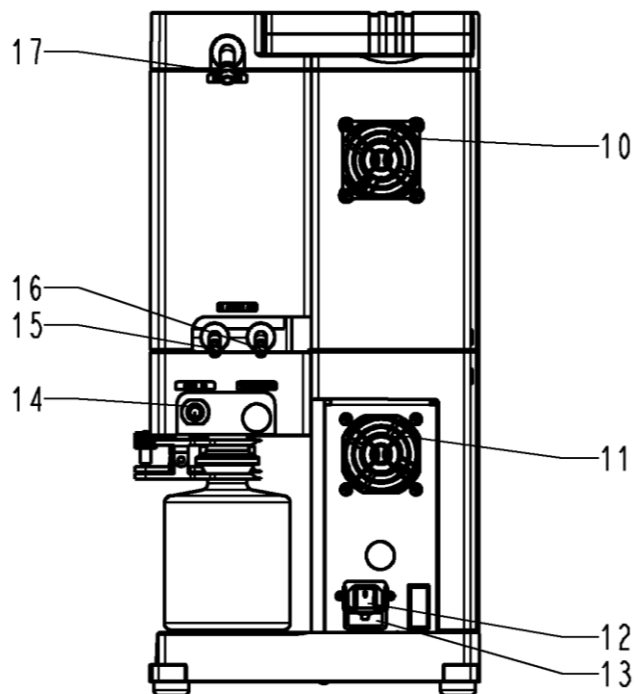
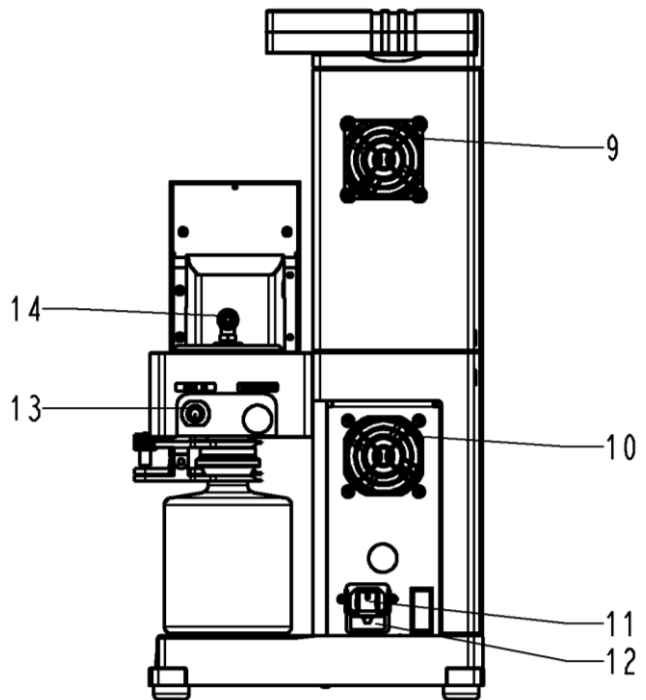

Fig. 5: Vacuum pump system SH 950
Fig. 6: Vacuum pump system SR 950
Collection flask (Fig. 5/7) collects on the suction side of the pump particles and drops that were, contrary to the requirements of the pump, suctioned from the vacuum chamber. The collection flask is coated (implosion protection) and fastened to the vacuum pump system via a flask clip (5).
Collection flask (Fig. 6/6) collects on the suction side of the pump particles and drops that were, contrary to the requirements of the pump, suctioned from the vacuum chamber. The collection flask is coated (implosion protection) and fastened to the vacuum pump system via a flask clip (4).
The gas ballast valve can be opened and closed via the gas ballast switch (Fig. 2/6, p. 13 or Fig. 4/4, p. 17, Fig. 5/4, p. 19 and Fig. 6/3, p. 21):
| Installing the collection flask | Install the collection flasks (Fig. 2/8 and 9, p. 13 or Fig. 4/6 and 7, p. 17, Fig. 5/6 and 7, p. 19 and Fig. 6/5 and 6, p. 21) with the flask clips (Fig. 2/7, p. 13 or Fig. 4/5, p. 17, Fig. 5/5, p. 19 and Fig. 6/4, p. 21). The flasks and clips are included as loose parts. |
1. Connect the vacuum chamber to the gas inlet's hose connector (Fig. 2/19, p. 13 or Fig. 4/16, p. 17, Fig. 5/14, p. 19 and Fig. 6/13, p. 21, for hose inside diameter of 10 mm). For this, vacuum tubing must be used.
2. Connect hose to high-performance condenser in order to discharge gas exhaust (Fig. 2/22, p. 13 or Fig. 4/19, p. 17, Fig. 5/17, p. 19 and Fig. 6/14, p. 21, for hose inside diameter of 10 mm).
Attach coolant feed and return to high-performance condenser (Fig. 2/20 and 21, p. 13 or Fig. 4/17 and 18, p. 17 and Fig. 5/15 and 16, p. 19, for hose inside diameter of 8 mm).